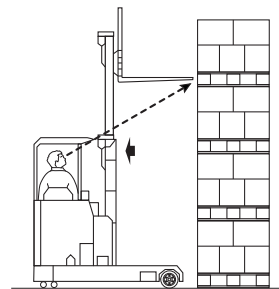

Figure 17
- (e) When the load is securely stacked, lower the fork arms until free of the pallet or dunnage strips and reach in. When freeing the fork arms, great care must be taken to ensure the forks do not bind on withdrawal. Adjust the tilt as necessary. (If the fork arms are not fully clear of the stack, the reach truck should be moved back a short distance, after ensuring the way is clear.) (Figure 17);